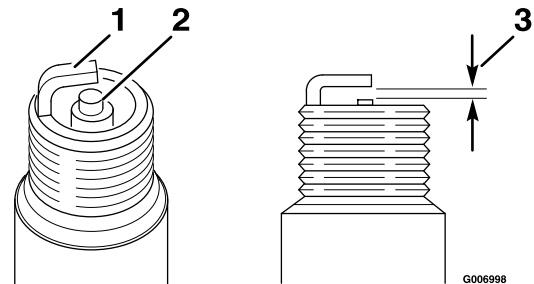

Figure 30
1. Look at the center of the spark plug (Figure 30). If you see light brown or gray on the insulator, the engine is operating properly. A black coating on the insulator usually means the air cleaner is dirty.
2. Check the gap between the center and side electrodes (Figure 30). Bend the side electrode if the gap is not correct.